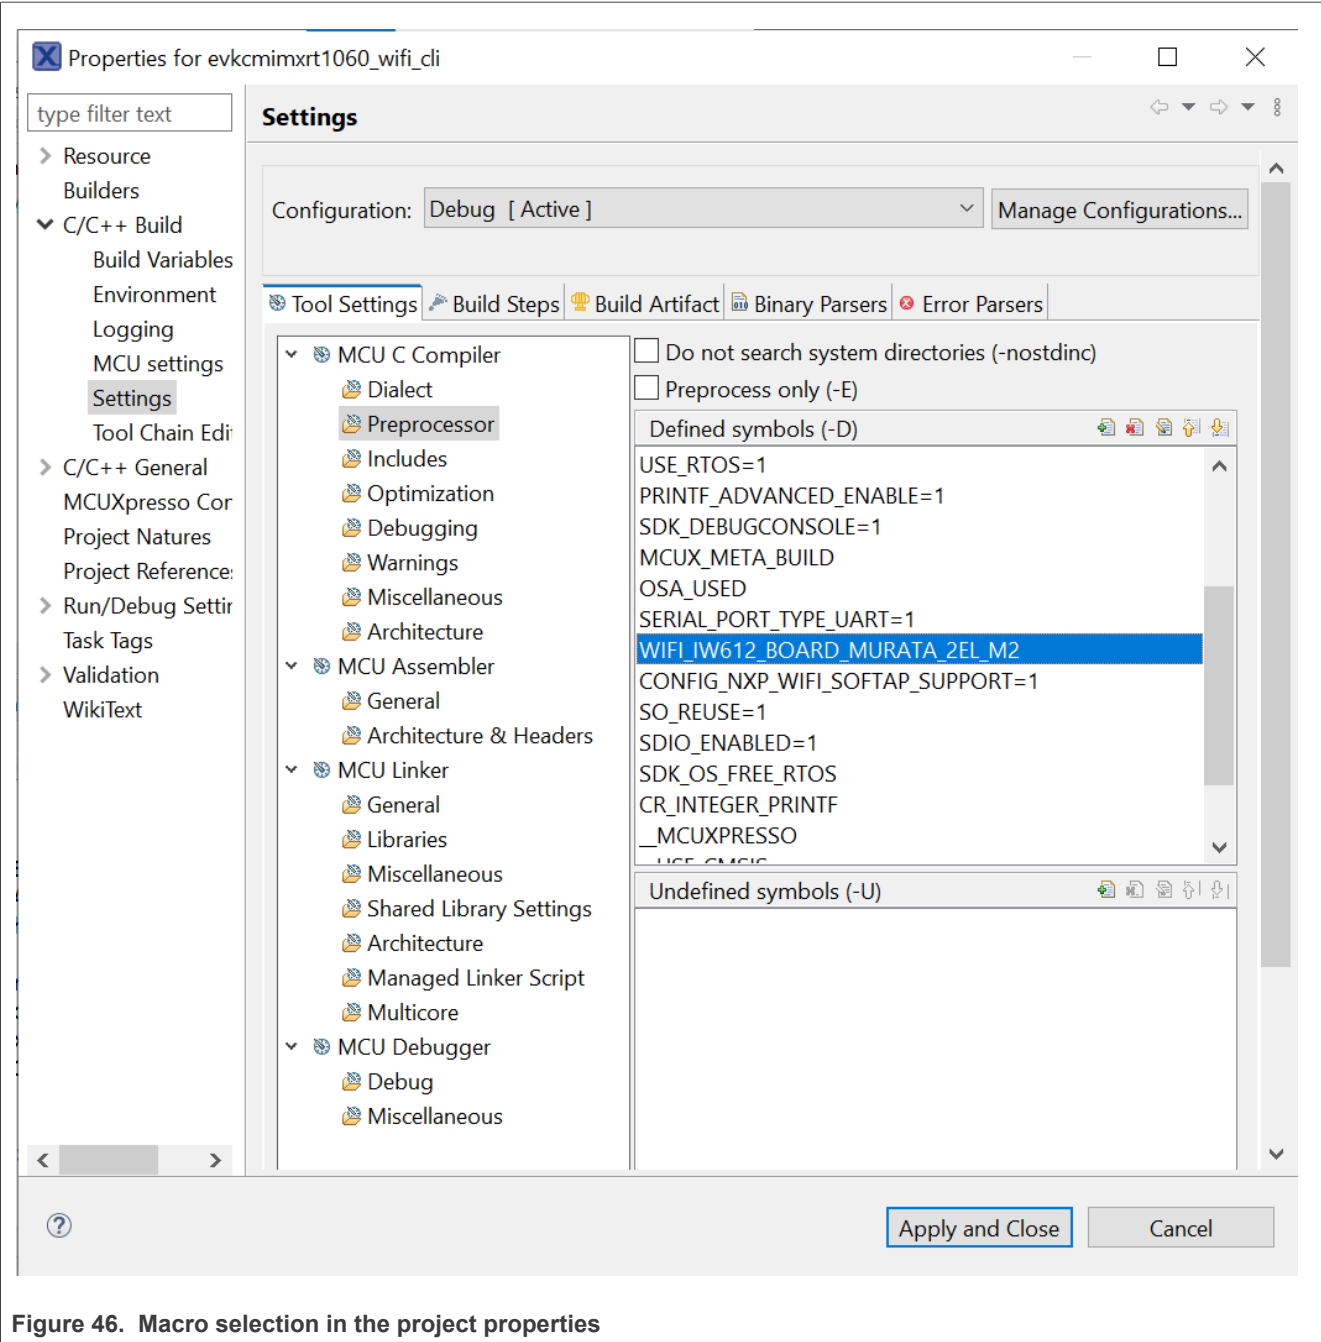

Figure 46. Macro selection in the project properties
- *Go to project properties > C/C++ Build > Settings > Preprocessor (Figure 46).*